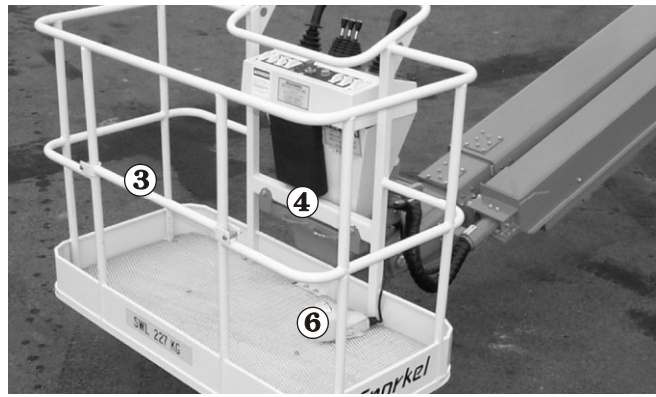

Figure 7.2—Platform
3. Enter the platform and securely close the gate^③ (refer to Figure 7.2).
4. Attach the fall restraint lanyard to one of the anchor points^④ (refer to Figure 7.2).
7. Step down on the platform foot switch ⑥ (refer to Figure 7.2 and 7.5).